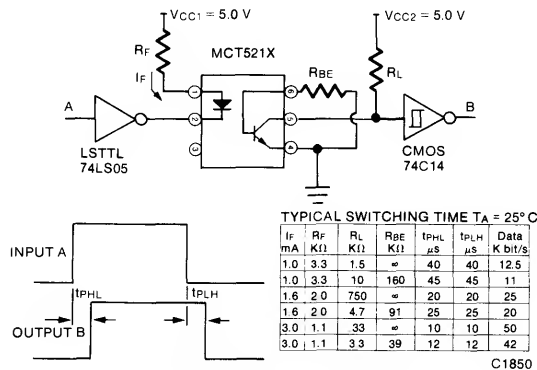

Fig. 13. Switching Speed Test Circuit
- Referring to Figure 13 the t_{PHL} propagation delay is measured from the rising edge of the data input (A) to the rising edge of the rising edge of the data output (B).
- Referring to Figure 13 the t_{PLH} propagation delay is measured from the falling edge of data input (A) to the falling edge of the data output (B).